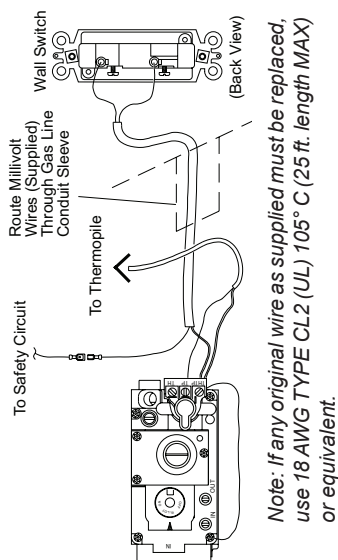

Figure 13 - Wall Switch Wiring Diagram
2. Using wire and connectors provided, attach red wire to terminal marked TH/TP on control valve. Attach white wire to blade connector on open end of safety circuit wiring (see Figure 13, and Wiring Diagram, page 31).
2. Disconnect wall switch wires from TH/TP terminals on control valve and blade connector on safety circuit wiring (see Figure 13 and Wiring Diagram on page 31).